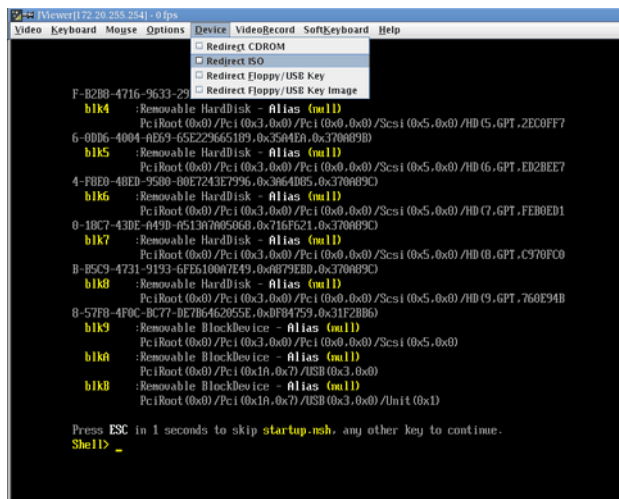
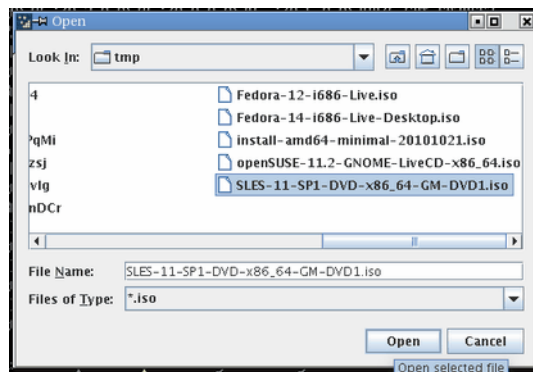
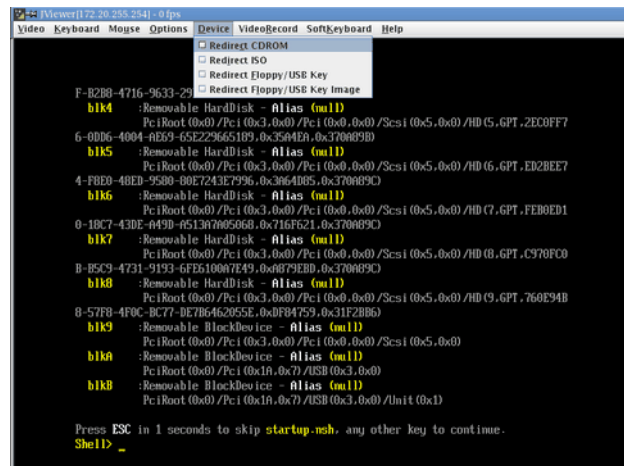

Figure 3-14 Redirect ISO Pull Down Menu
Figure 3-15 ISO Image File Name Screen
Figure 3-16 Redirect CRROM Pull Down Menu
- To specify an ISO image file to redirect to the Altix UV operating system ISO image, select **Device-> Redirect ISO** on the JViewer client, as shown in Figure 3-14 on page 56. Then select the ISO image file to use, as shown in Figure 3-15 on page 56. If you are using physical media, to redirect a CD-ROM or DVD, place the CD in the drive of the machine where JViewer is running, then select **Device-> Redirect CDROM** on the JViewer client, as shown in Figure 3-16 on page 57.